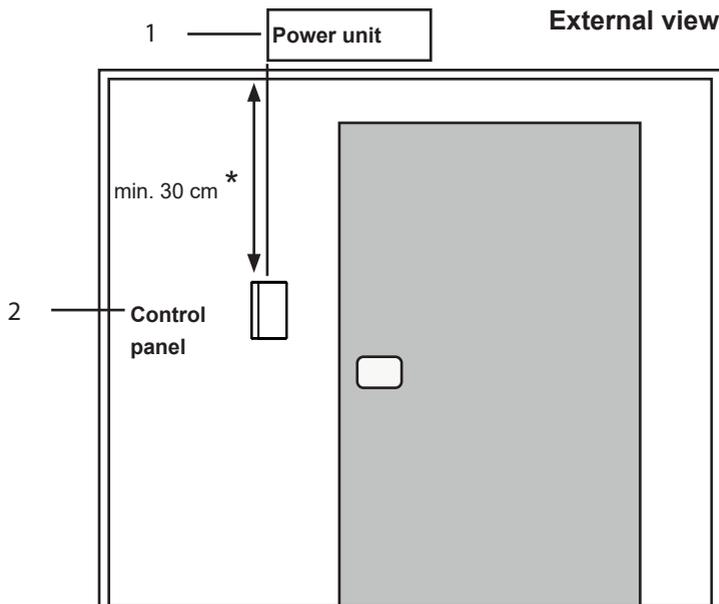

Fig.4 Control panel position
The control panel 2 is installed on the cabin wall at a maximum distance of 10 metres from the power unit 1 (see Fig.4).
*For installation inside a sauna cabin, maintain a minimum distance of 30 cm to the ceiling. (see Fig.4).